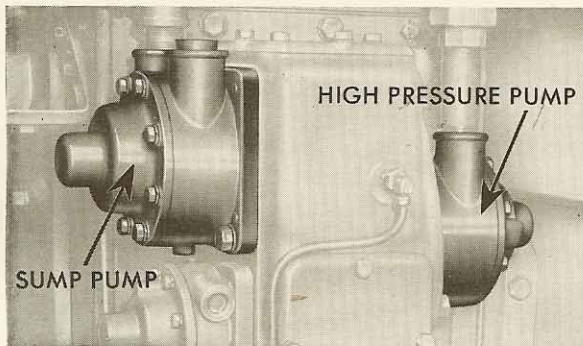

FIGURE 20-1
1. DESCRIPTION OF PUMPS: Figure 20-1 shows the pressure lube oil pump, and the sump lube oil pump. The two oil pumps are alike except for the length of the shafts and the position of the keyways. They are of the gear reversible type pump using a gear, an idler and a crescent-shaped baffle to main-